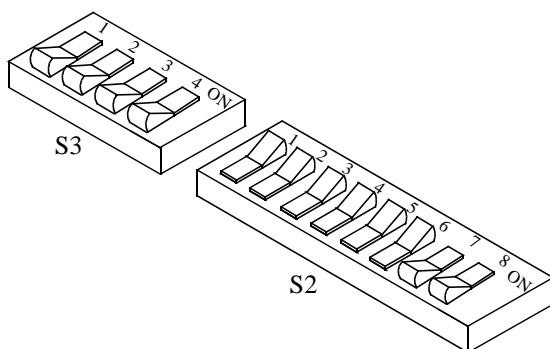

Figure 7-19 OLD HSDB SWITCH SETTINGS
1. Switch settings on the MPC for single-ended 5V (old style) operation are shown in Figure 7-19. S002 Sections 1-8 Off. S003 all sections On.